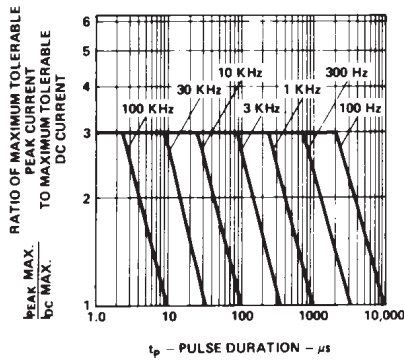

Figure 5. Maximum tolerable peak current vs. pulse duration. (I_{DC} MAX as per MAX ratings)
- See Figure 5 (Red/Orange), 10 (Yellow), or 15 (Green) to establish pulsed operating conditions.